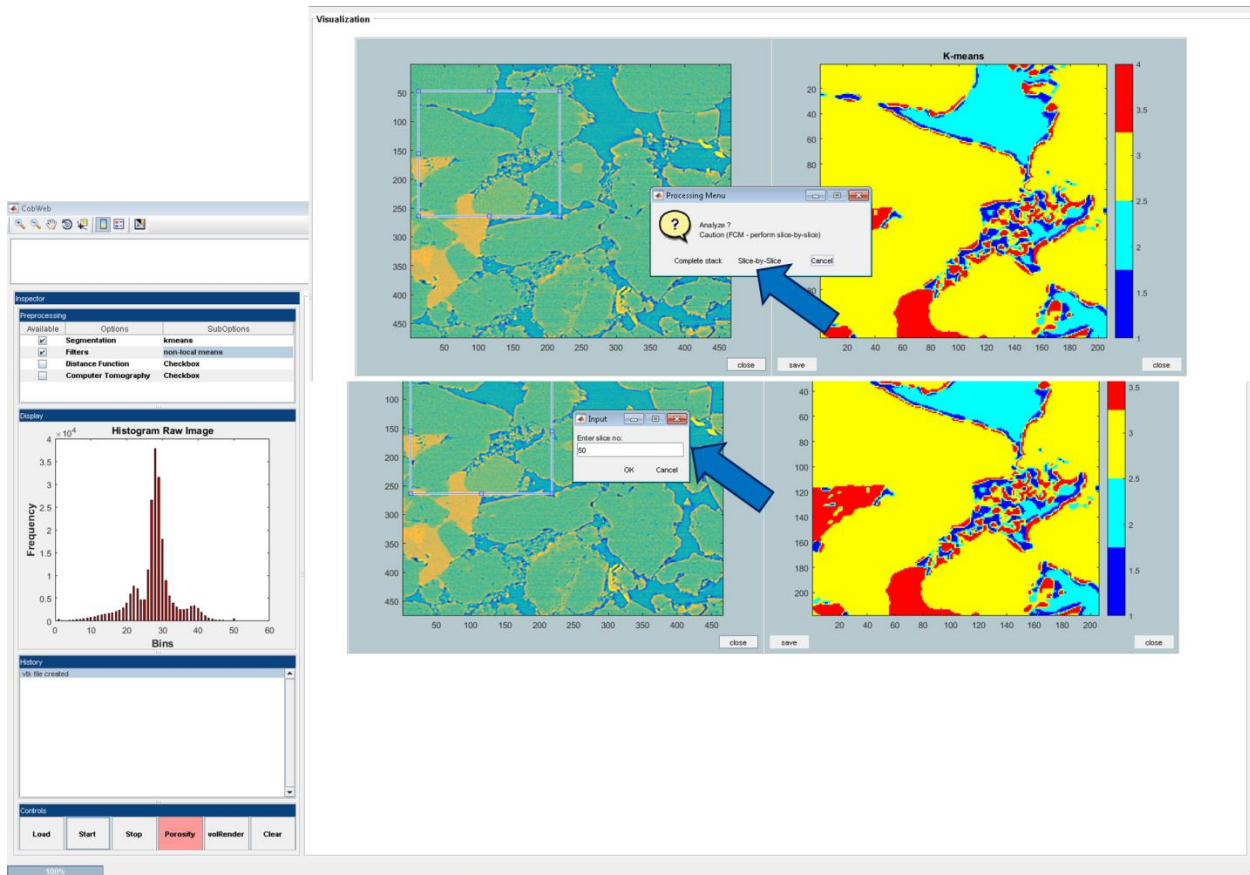

Figure 31: Porosity processing menu and input
- Figure 31 displays the **Slice-by-Slice** option **selected** and the **slice number** to be **typed** by the user **as input**.